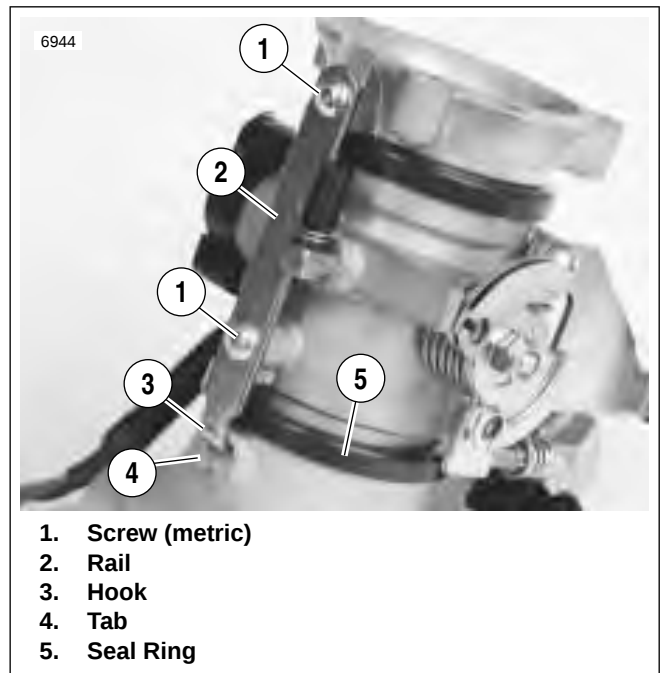
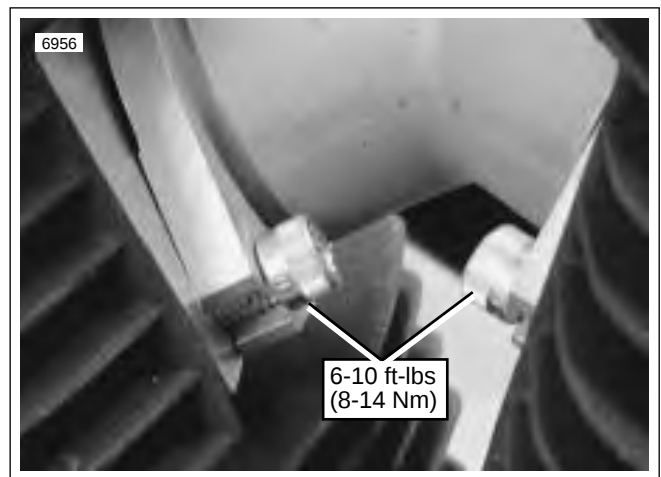

Figure 4-100. Front Portion of Throttle Body
Figure 4-101. Intake Flange Screws, Primary Cover Side
- a. See Figure 4-100. If front portion of throttle body was removed, lubricate surface of seal ring (5) that will contact manifold.
- c. Place hook (3) on bottom rail (2) over tab (4) on manifold. Secure with two screws (1) (metric).
- a. See Figure 4-101. Standing on the gearcase cover side of the vehicle, slide the assembly toward installed position. Manifold should slide over screws on primary cover side of engine.